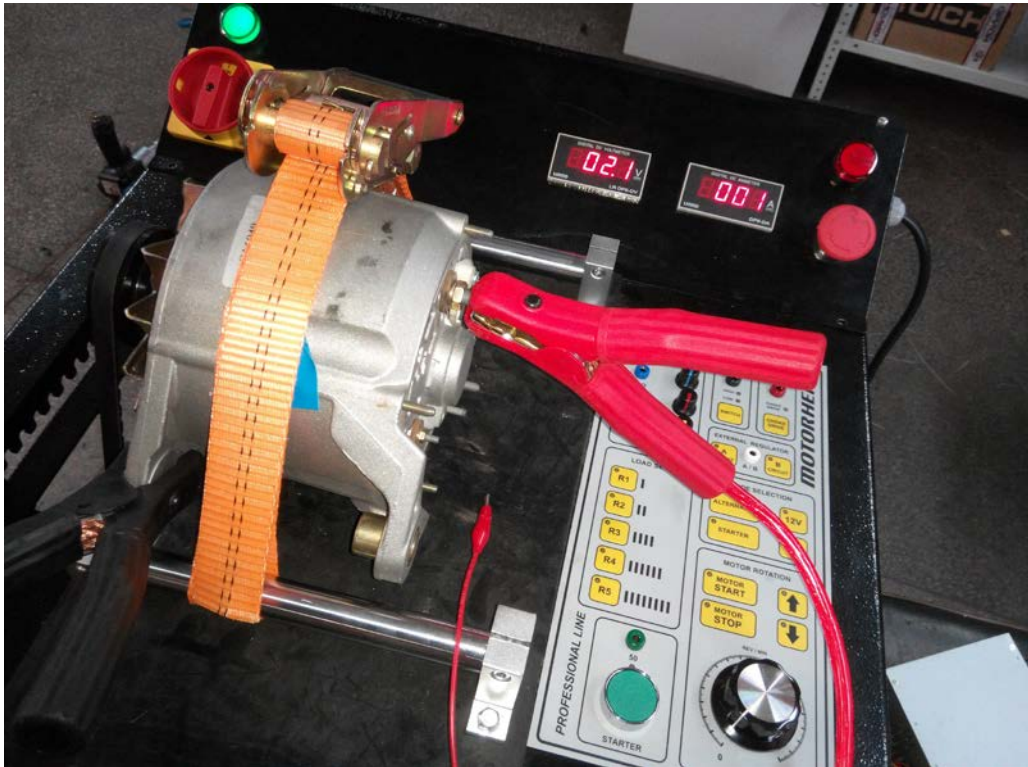

Figure 6.
- fix the generator on the test bench (if necessary, place the rubber pad from the delivery kit under the generator housing to increase the V-belt tension. Clamp the generator housing with the ratchet (Figure 6).